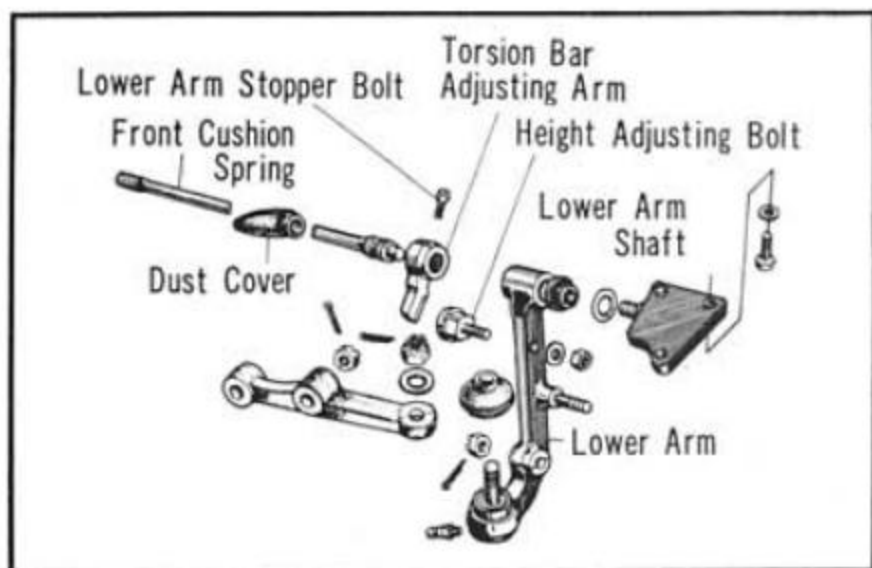

Fig. 15A-14
14. Remove cotter pin, nut, washers, upper arm bushing and upper arm shaft and then remove the upper arm from the upper arm bracket (Fig. 15A-11).